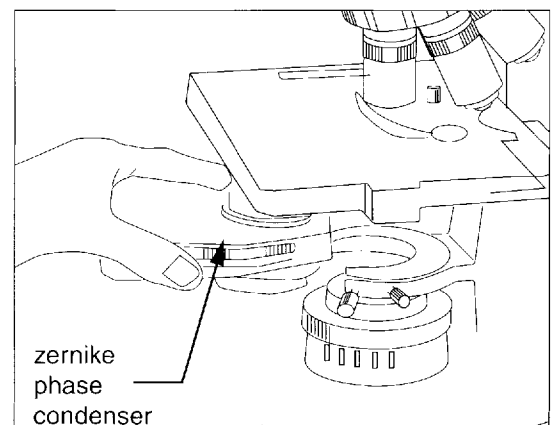

Figure 1
1. Install the phase contrast objectives into the nosepiece and install the Zernike Phase Condenser in place of the standard Abbe Condenser by lowering the condenser rack and loosening the clampscrew shown at right and then sliding out the condenser. (Fig.1)